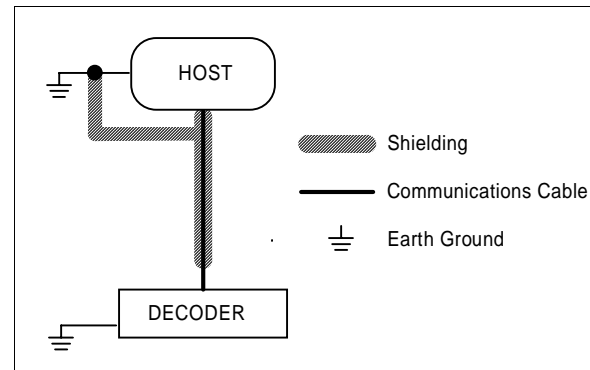

Figure 1-14 Grounding Diagram, Decoder-Host
*Noise interference* can be minimized if cabling subject to noise interference is twisted and/or shielded or encased in grounded conduit, and the conduit or shielding (“drain” line) is grounded only to earth ground at the host, as shown in figure 1-14. You might need to examine and if necessary cut the shielding connection at or near the concentrator cable connector.